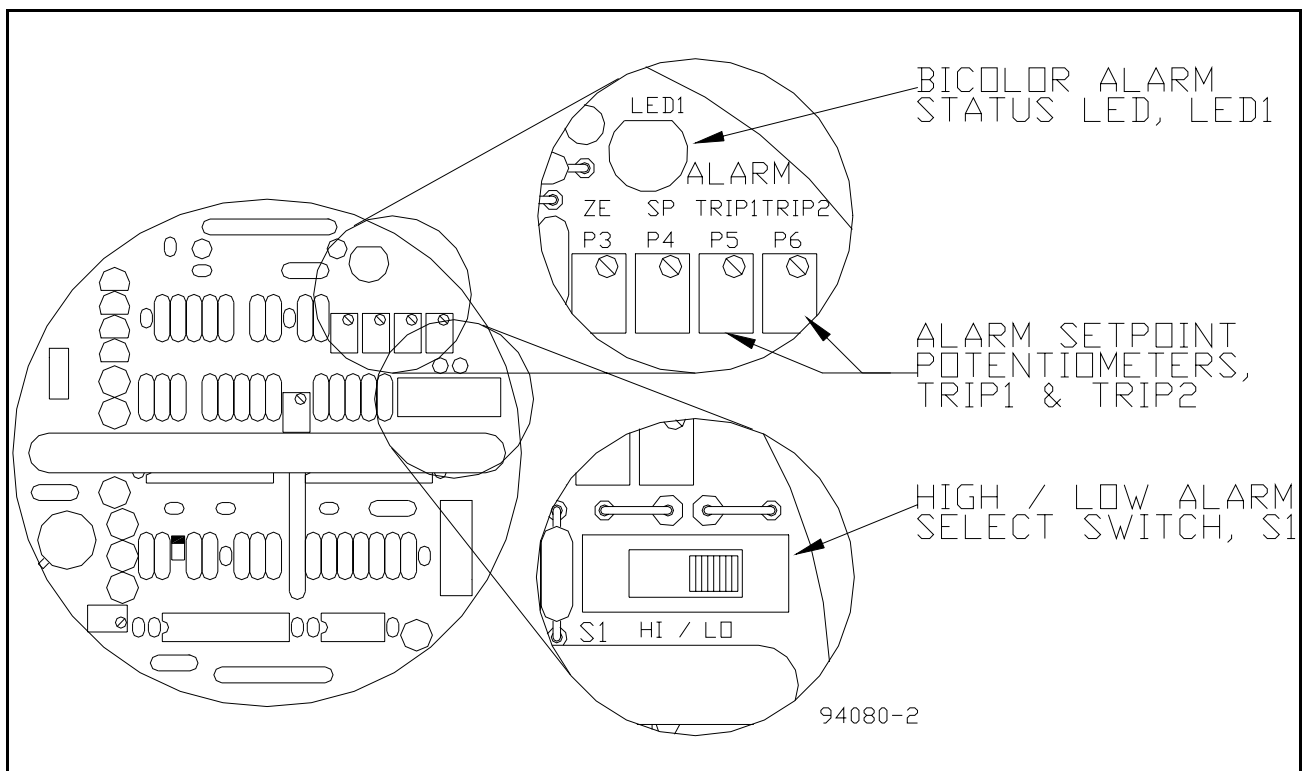
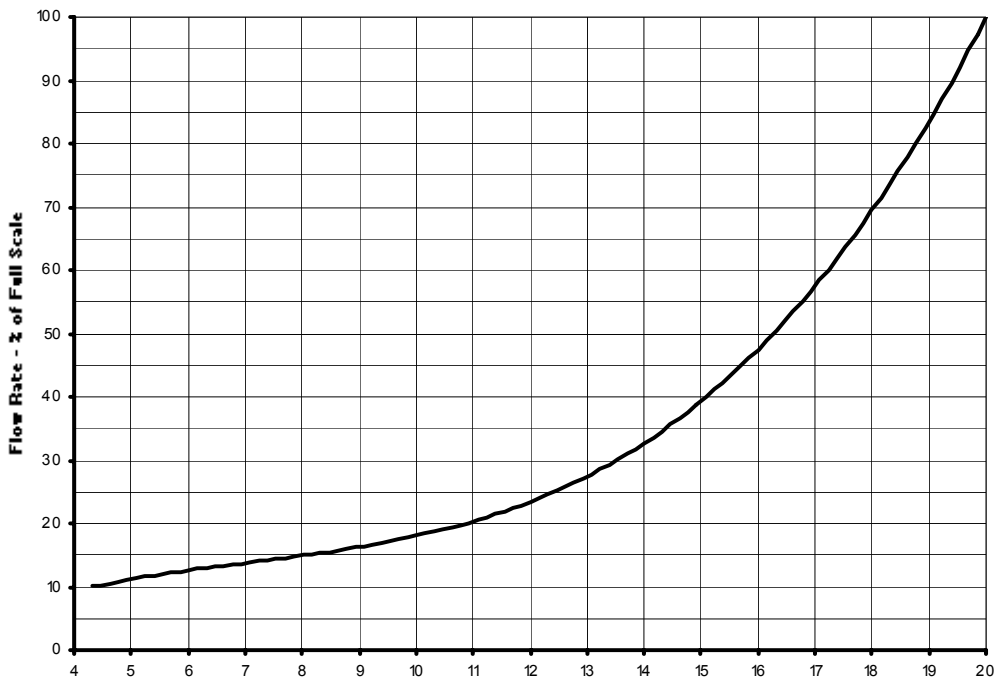

Figure 3. Set point Adjustment Components and Locations
Figure 6. Typical Output Curve (for units with 4-20mA output option)
signal, the output curve for the unit can be found after SECTION 6. For an uncalibrated unit with a 4-20mA option, a typical curve is shown in Figure 6. Check SECTION 6 for the corresponding full scale value for this instrument. Flow can also be found by the formula:
2. Locate the zero potentiometer (pot) labeled P3 using Figure 3. Identify the proper flow output signal corresponding to the current flow rate (see Figure 6 or the supplied calibration curve, as applicable). After the flow has stabilized, adjust P3 until the flow output agrees with the desired output value.
4. Locate the span pot labeled P4 using Figure 3. Identify the proper flow output signal corresponding to the current flow rate (see Figure 6 or the supplied calibration curve, as applicable). After the flow has stabilized, adjust P4 until the flow output agrees with the desired output value.